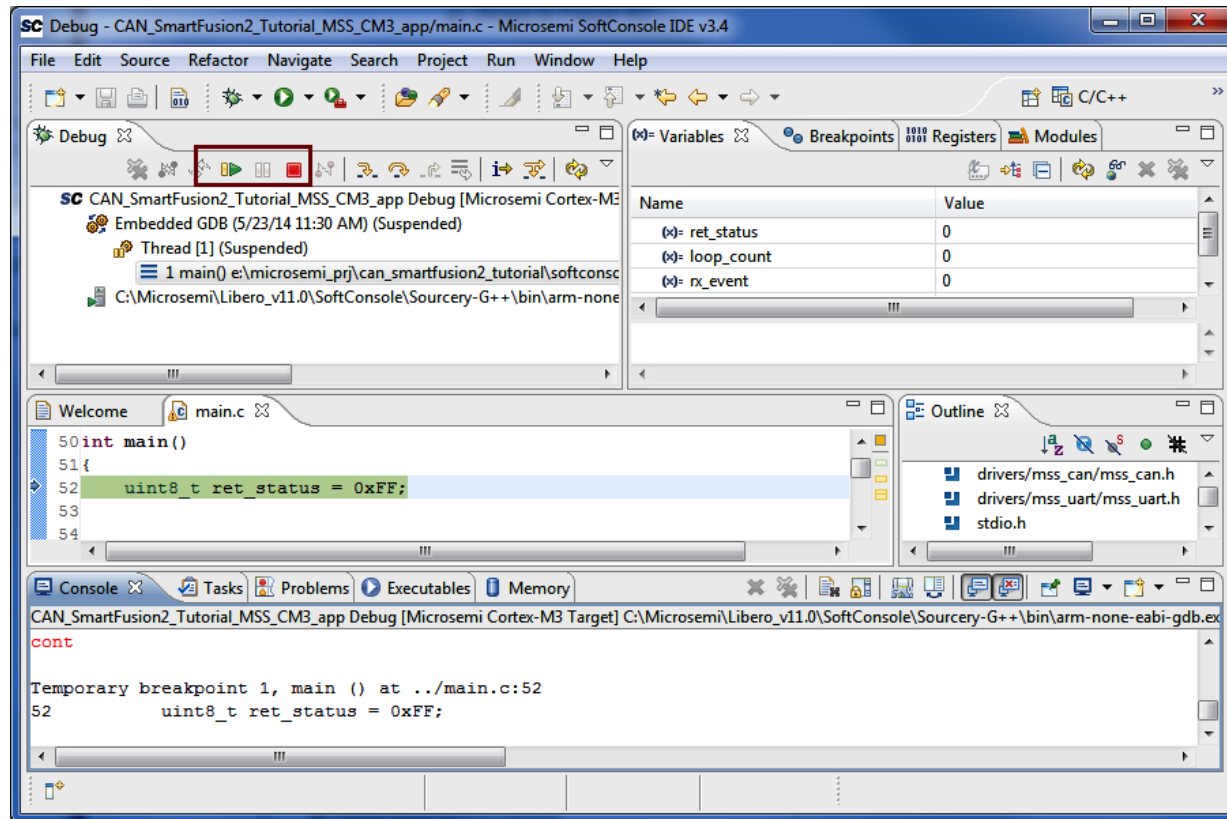

Figure 29 • Debug Perspective
The Debug view mode is displayed as shown in Figure 29.
7. Choose **Run > Resume** to run the application or click **Run** on the SoftConsole toolbar as shown in Figure 29.